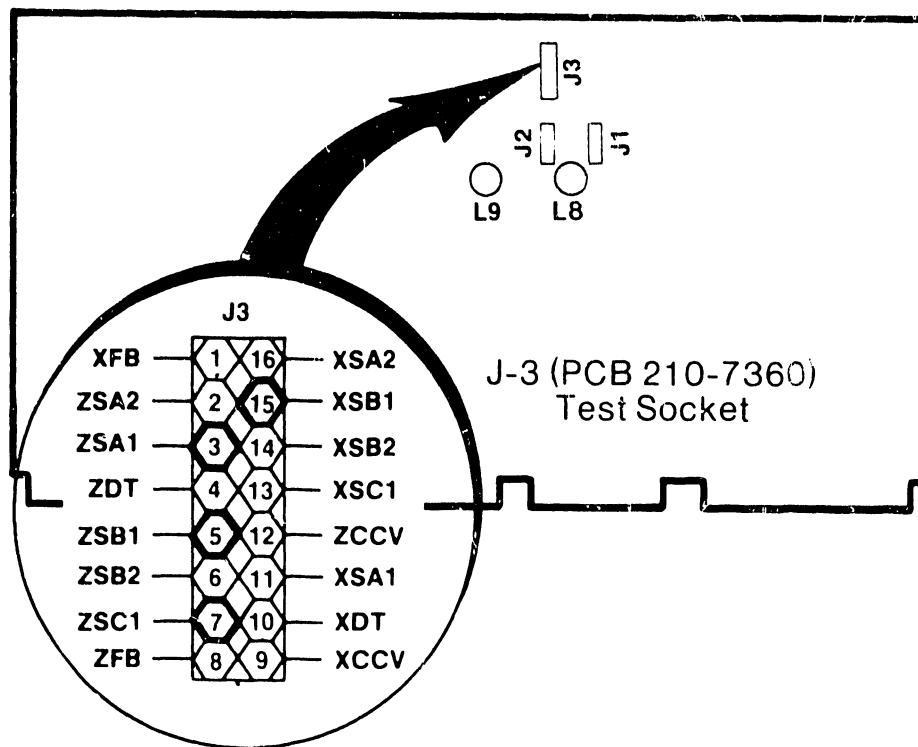

FIGURE 5-2 TEST CONNECTOR J3 (LOCATED ON PCB 210-7360)
6. On the servo board (210-7360), check that signals ZSA1 (L12-1) and ZSB1 (L14-1) are a 0V to -4V pp sine wave (see Figure 5-3). Test points are also located on test connector J3 on top middle of servo board 210-7360 (see Figure 5-2).
19. On the servo board (210-7360), check that signals ZSA1 (L12-1) and ZSB1 (L14-1) are a 0V to -4V pp sine wave (see Figure 5-3). Test points are also located on test connector J3 on top middle of servo board 210-7360 (see Figure 5-2).